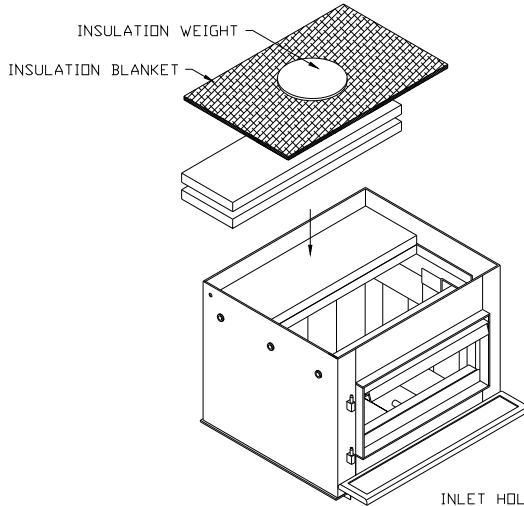

Figure 5b
- 3- Put the vermiculite boards on top of the rear secondary air tube. The vermiculite boards must be placed next to each other (not stacked). Put the insulation blanket on top of the vermiculite boards as shown in figure 5b. Place the insulation weight at the top back center of the insulation blanket lined up with the flue outlet.
- 4- Install the second side baffle support (B) on the other side of the firebox.